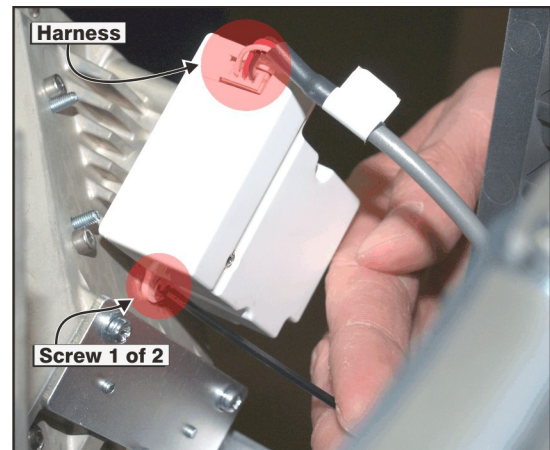

Figure 5-70 Light Sensor
3. Disconnect the harness from the light sensor module (Figure 5-70).
2. Disconnect the harness from the light sensor module (Figure 5-70).
3. Remove the two screws securing the sensor to the IOS (Figure 5-70).